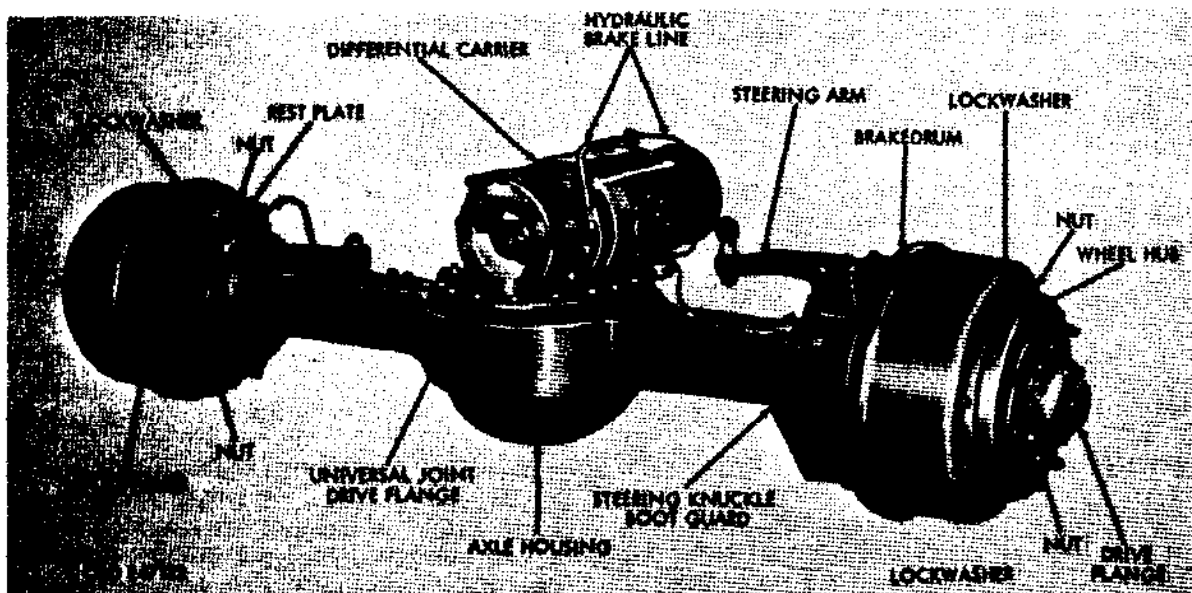

Figure 332. Front axle assembly
a. General. The front axle assembly (fig. 332) is a hypoid, double reduction, full-floating type. The differential and carrier assembly is mounted on top of the axle housing and is interchangeable with the two rear axle differential and carrier assemblies. Power is transmitted from differential and carrier assembly to wheels through axle shafts and universal joint assemblies. The universal joints, in the front axle shafts permit delivery of power to front wheels when truck is turned to right or left. The over-running sprag unit on the transfer front output shaft automatically eliminates delivery of power to front axle during normal operation.